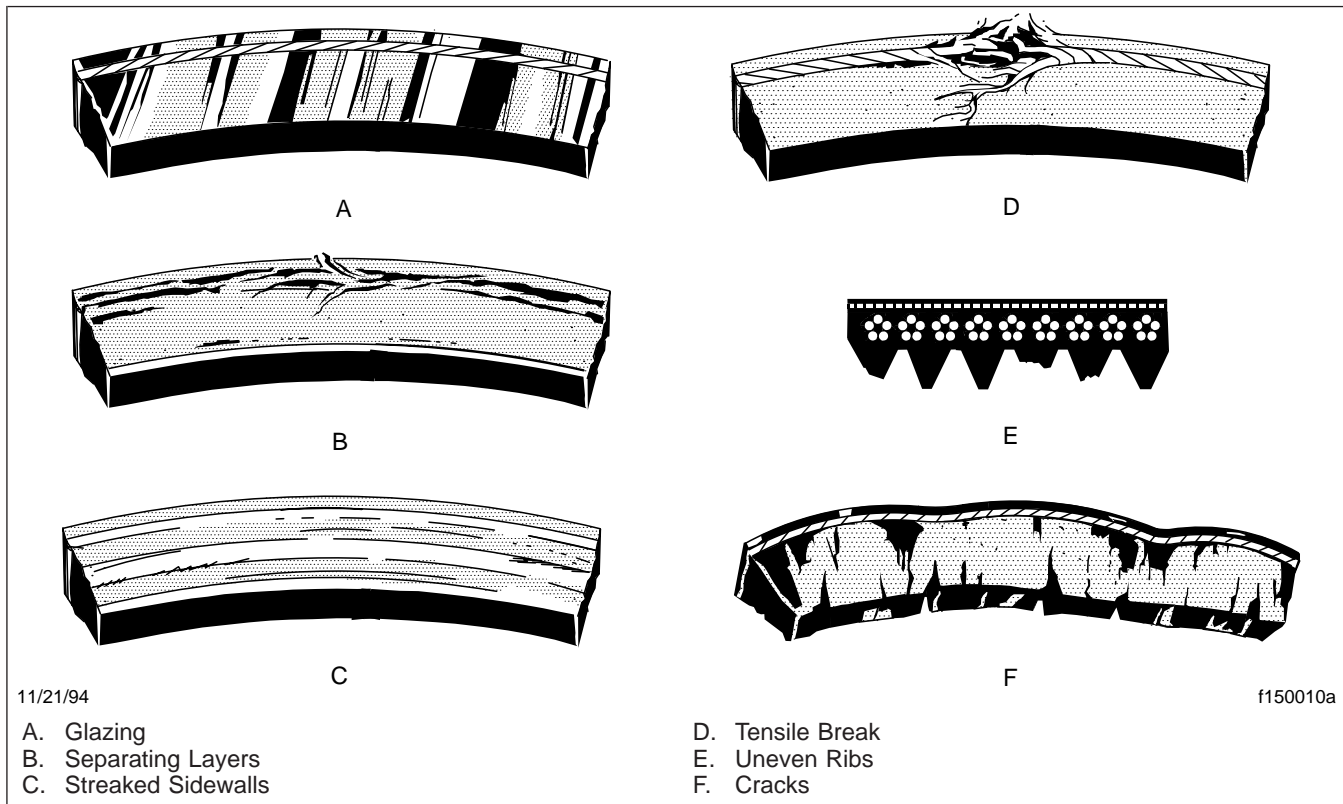

Fig. 2, Drive Belt Replacement Conditions
1. Inspect the belt for glazing. See **Fig. 2**, Ref. A. Glazing is represented by shiny sidewalls, and is caused by friction created when a loose belt slips in the pulleys. It can also be caused by oil or grease contamination on the pulleys.
2. Check the belt for ply separation. See **Fig. 2**, Ref. B. Oil, grease, or belt dressing can cause the belt to fall apart in layers. Repair any oil or coolant leaks that are affecting the belts before replacing the drive belts. Do not use belt dressing on any belt.
3. Check the belt for a jagged or streaked sidewall. See **Fig. 2**, Ref. C. Jagged or streaked sidewalls are the result of foreign objects, such as sand or gravel in the pulley, or a rough pulley surface.
4. Check for tensile breaks (breaks in the cord body). See **Fig. 2**, Ref. D. Cuts in a belt are usually caused by foreign objects in the pulley, or by prying or forcing the belt during removal or installation.
5. Check for uneven ribs on serpentine (poly-V) belts. See **Fig. 2**, Ref. E. Foreign objects in the pulley will erode the undercord ribs, causing the belt to lose its gripping power.
6. Check the drive belts for cracks. See **Fig. 2**, Ref. F. Small irregular cracks are usually the signs of an old belt.